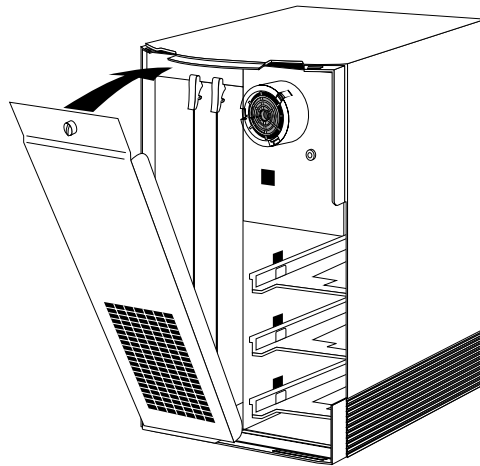

Figure 6-27 Tilting the Metal Panel Up to the Chassis
- Tilt the metal panel back up to the Indigo chassis, as shown in Figure 6-27.